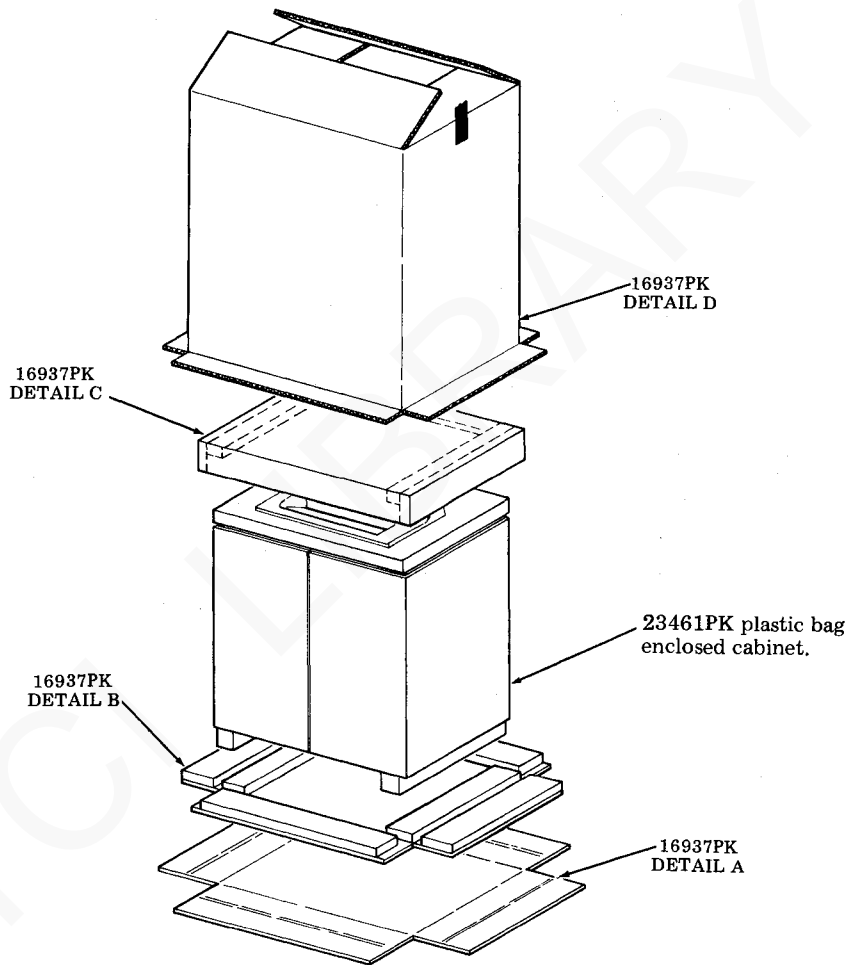

Fig. 38
- Step 1. Place skidded bottom end cap Detail A of 16937PK details on floor. See Fig. 38.
- Step 2. Place and center the bottom cushion cap Detail B of 16937PK details on top of A. See Fig. 38.
- Step 7. Form a 16937PK carton Detail D and with bottom flanges down and outward, place over top of cabinet and detail and slide to bottom. See Fig. 38.
- Step 8. Form and place one top cushion cap Detail C of 16937PK within carton on top of cabinet. The portion of the detail without a corrugated block must be placed to the front of the cabinet. See Fig. 38.